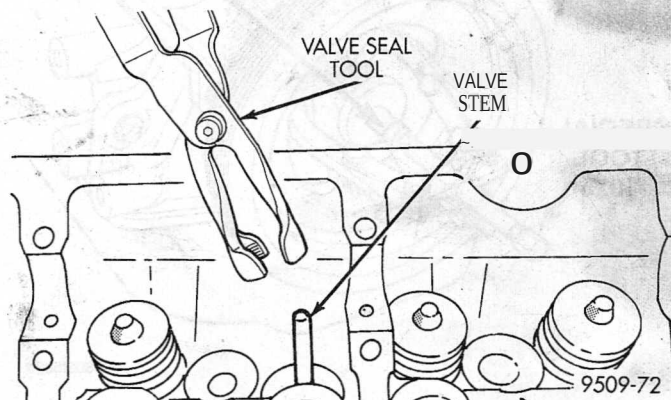

Fig. 52 Valve Stem Oil Seal Tool
(1) Coat valve stems with clean engine oil and insert in cylinder head.
(2) Install new valve stem seals on all valves using a valve stem seal tool (Fig. 52). The valve stem seals should be pushed firmly and squarely over valve guide.